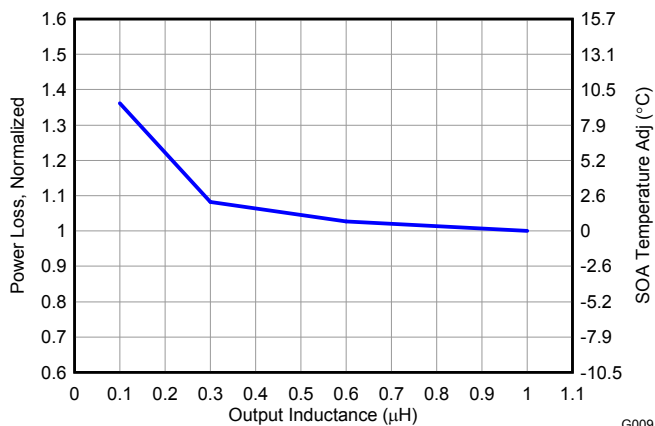

Figure 9. Normalized Power Loss vs. Output Inductance
- Normalized Power Loss for output inductor  $\approx 1.06$  (Figure 9)
- SOA adjustment for output inductor  $\approx 1.5^\circ\text{C}$  (Figure 9)